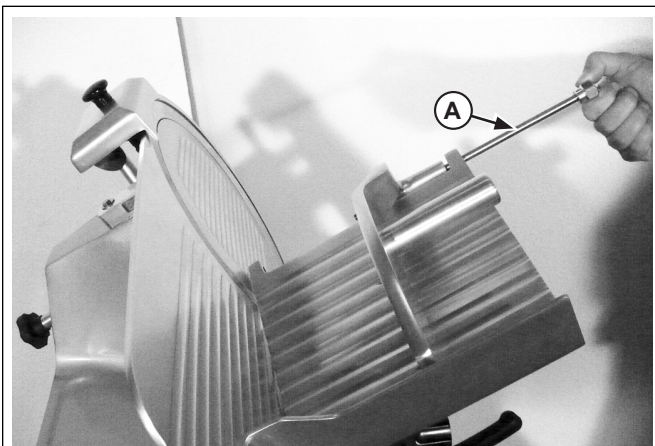

Figure 6. Carriage Tray Shaft
8. Unscrew and remove the carriage tray shaft (A). Figure 6.